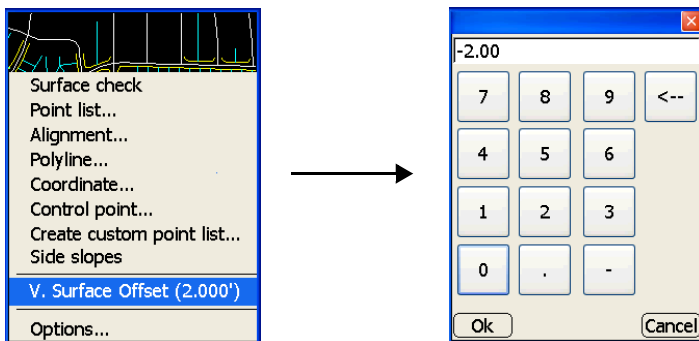

Figure 7-30. Add Extra Vertical Offset
1. To add or subtract an extra vertical offset to a surface, press **Survey ► Stakeout ► Extra V.Offset** (Figure 7-30).
2. On the small pop-up keyboard, enter the desired value for the offset, then press **Ok** (Figure 7-30).